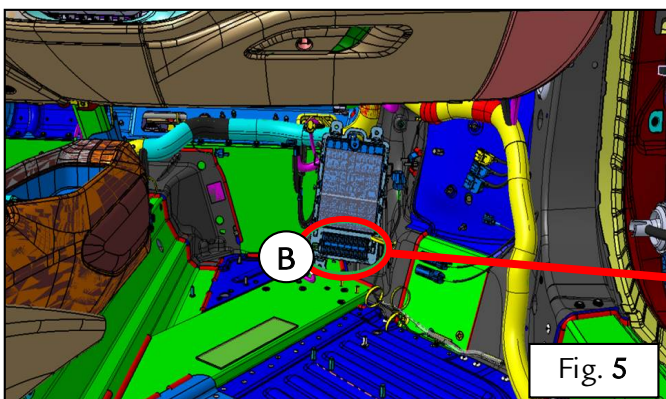

Fig. 5
- With the vehicle in “Sleep” state, disconnect the power feed fuse of the NIT F110, situated in fuse box FRB C312-LA (A) – Fig.5 and 6.
- Refit fuse **F110** of the **NIT** (Fig. 5 and 6). It is not necessary to wait for the network to enter “**Sleep**” state.